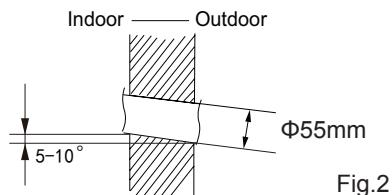

Fig.2
(2) Open a piping hole with the diameter Φ55mm on the selected outlet pipe position. In order to drain smoothly, slant the piping hole on the wall slightly downward to the outdoor side with the gradient of 5-10°.(As show in Fig.2)